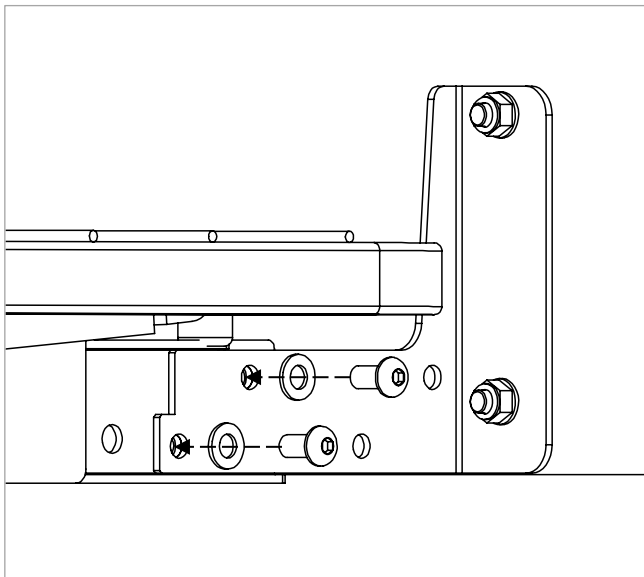

Figure 12.4
3. Secure the footboard with the bolts and washers in the extended position as shown in Figure 12.4.